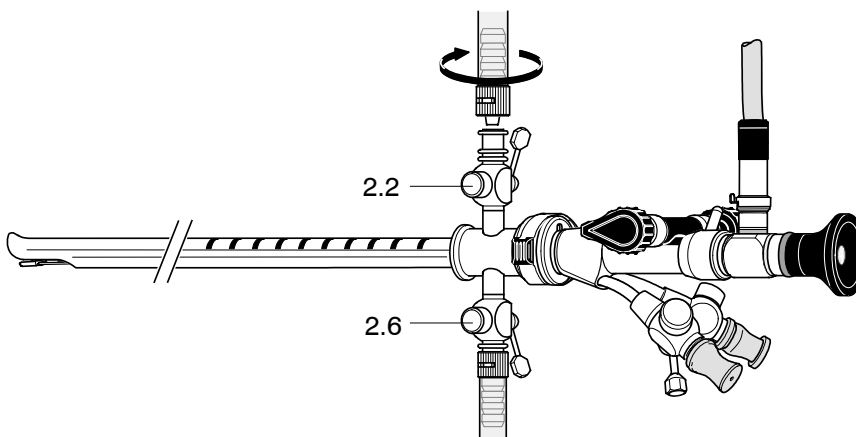

Fig. 9
- ◇ Connect the irrigation and drain tubes to the irrigation stopcock (2.2) and the drain stopcock (2.6). (Fig. 9)
- ◇ Connect a suitable flexible light cable and connect the other end to a suitable light source. (Fig. 9)